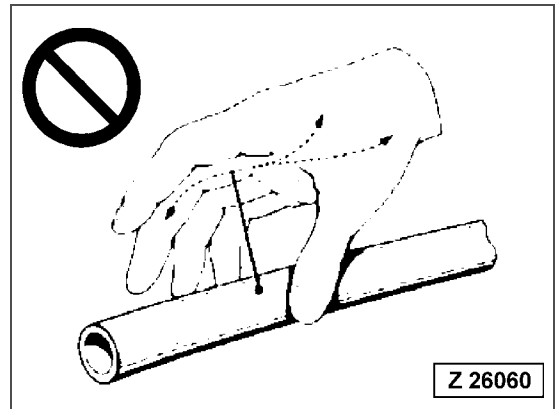

Fig. 2-53
- There is a hazard that high-pressure oil leaking from small holes may penetrate your skin or cause blindness if it contacts your eyes directly (Fig. 2-53). If you are hit by a jet of high-pressure oil and suffer injury to your skin or eyes, wash the place with clean water, and consult a doctor immediately for medical attention.